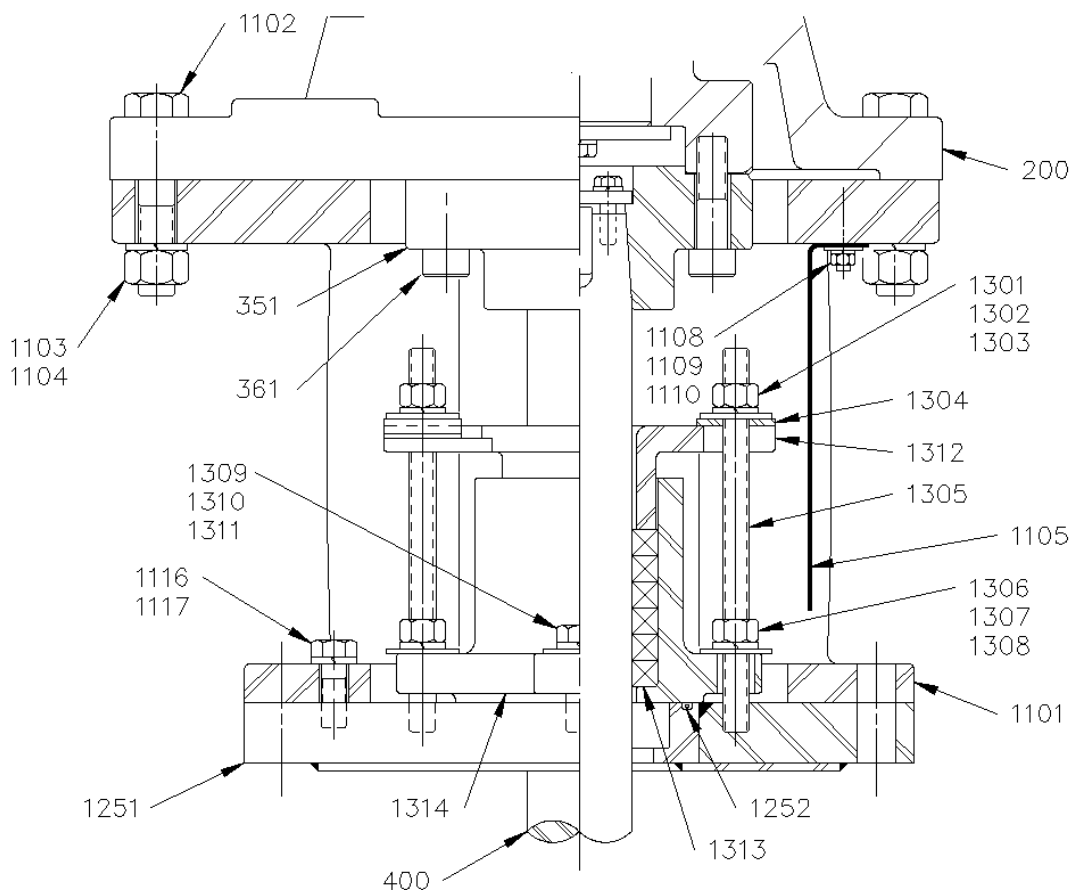
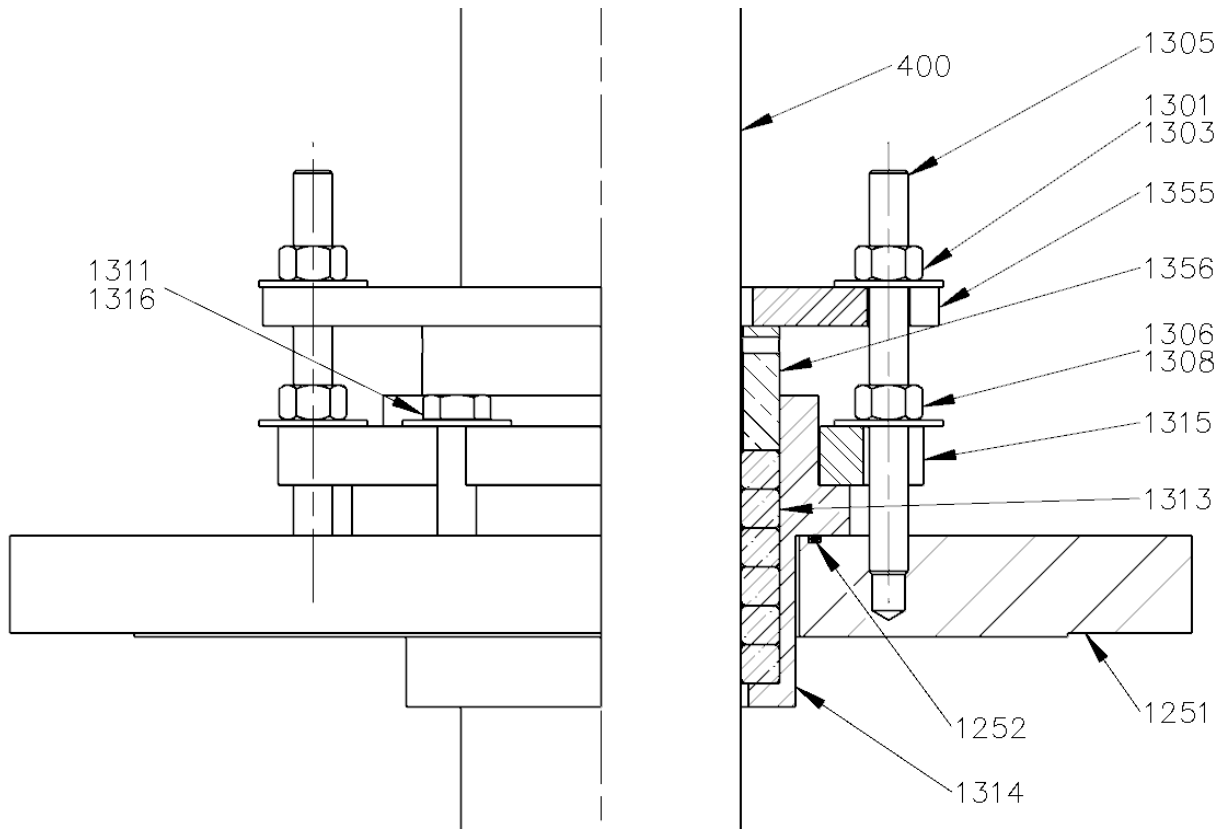

Figure 4. A Style 6-Ring Stuffing Box (Cast Housing)
Figure 5. A-Style 6-Ring Stuffing Box (fabricated housing)
Applicable to: MRA. Examine Figure 4 and Figure 5 to determine which type of stuffing box was supplied with your unit.
8. Install split packing gland **[1312]** over threaded studs **[1305]** with gland clamps **[1304]**, flatwashers **[1303]**, lockwashers **[1302]**, and hex adjusting nuts **[1301]**. Refer to Figure 4, page 19. The split packing gland must be square with the packing housing **[1314]**. Tighten bolts **[1309]** and nuts **[1306]**. Torque to the value shown in the APPENDIX, Page 89. Tighten the hex adjusting nuts.